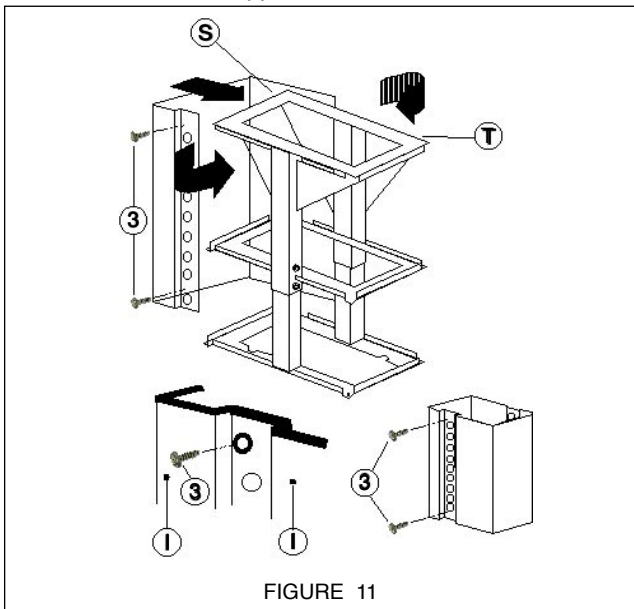

FIGURE 11
8. Attach the chimney cover to the support. The chimney cover is supplied in two sections with each section having two pieces. The upper section of the chimney cover (S) must be installed first, then the lower section (I). FIGURES 11 and 12 illustrate the attachment of the chimney cover. The lower section fits over the upper section. Once the covers are in the final position, screws are used to secure the top and bottom of each cover to the support.